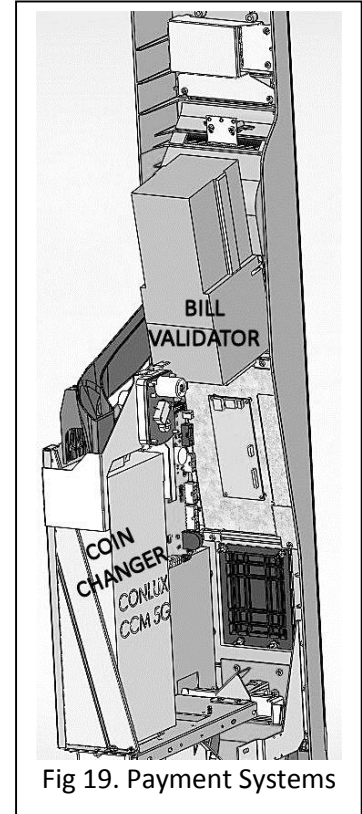

Fig 19. Payment Systems
1. Mount the changer unit onto the 3 screws provided and then secure, See Fig 19.